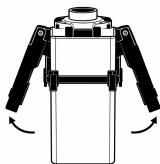

Fig. 1 - Release latches
- 1.** Release the latches in the direction shown in Fig. 1. Lift off the lid and separate the lid from the canister. Add the required filter media and filter pads.